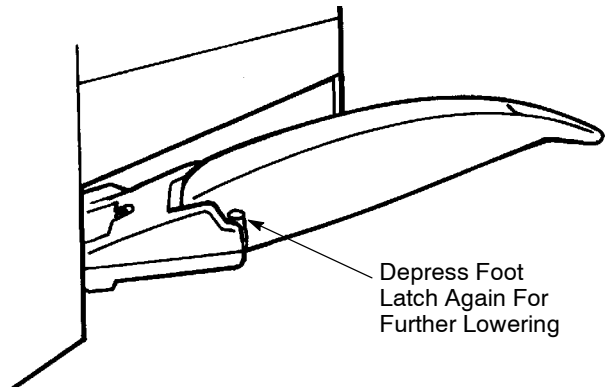

FIG. 4
6. For vacuuming under desks or other hard to reach places, lower handle to stop point and depress handle release foot latch once again. This enables for further handle lowering (Figure 4).